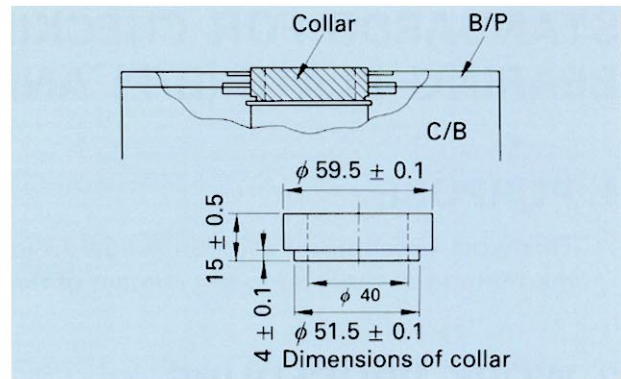

Fig. 2
- (1) Insert the specified collar in the cylinder barrel center hole, and fit the bearing plate on top. (See Fig. 2)
- (2) Push down on the whole bearing plate with both hands, and rotate the bearing plate about 5° from side to side three times to rub the surfaces together.